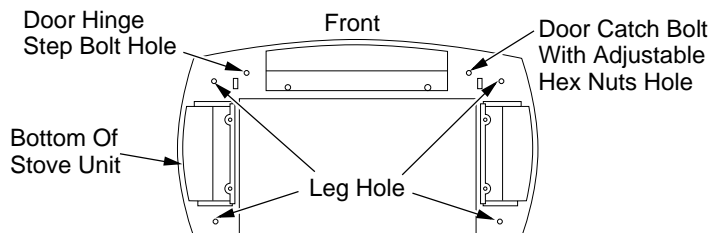
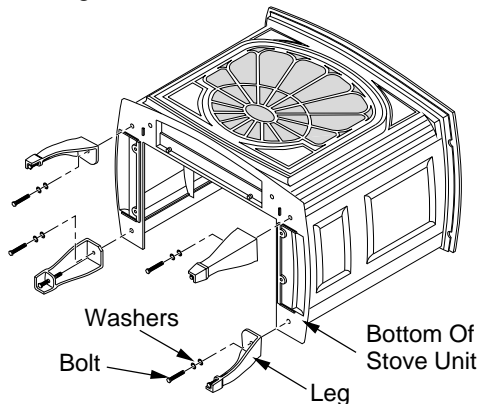
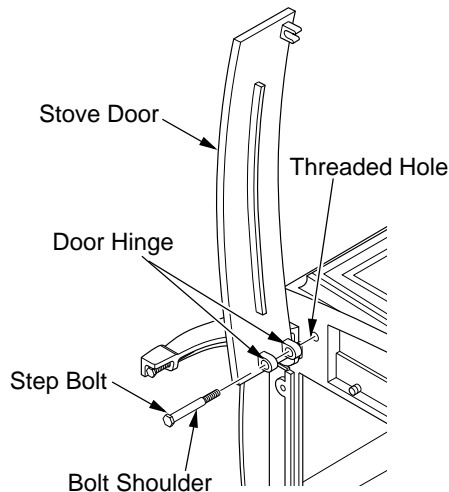
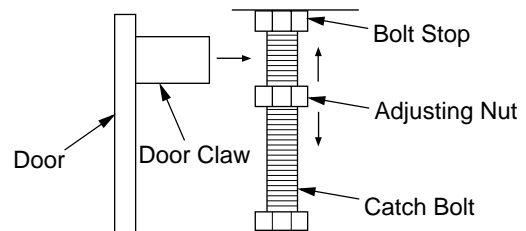

Figure 9 - Locating Threaded Holes for Legs and Door Attachment
Figure 10 - Attaching Stove Legs
Figure 11 - Attaching Stove Door
Figure 12 - Catch Bolt and Door Claw Orientation
8. Fasten each leg to stove with four (4) M8 x 1.25 - 20mm bolts. Use a flat washer and lock washer with each bolt. Tighten bolts into threaded holes on stove body (see Figure 9 and Figure 10 on page 6). Use an adjustable wrench or a 12mm socket.
9. Attach stove door by inserting step bolt through door hinge pivot hole and into threaded hole in stove body (see Figure 11 and Figure 9 on page 5). Use an adjustable wrench or a 12mm socket to fasten step bolt. Tighten step bolt until snug. Make sure door moves freely.
10. Install door catch bolt (M8 x 1.25-55mm with two M8 hex nuts) into threaded hole on stove body (see Figure 9, page 5). Use an adjustable wrench or a 12mm socket. The catch bolt has two hex nuts attached to it (see Figure 12). The top nut is a bolt stop and the bottom nut is for door leveling adjustment.